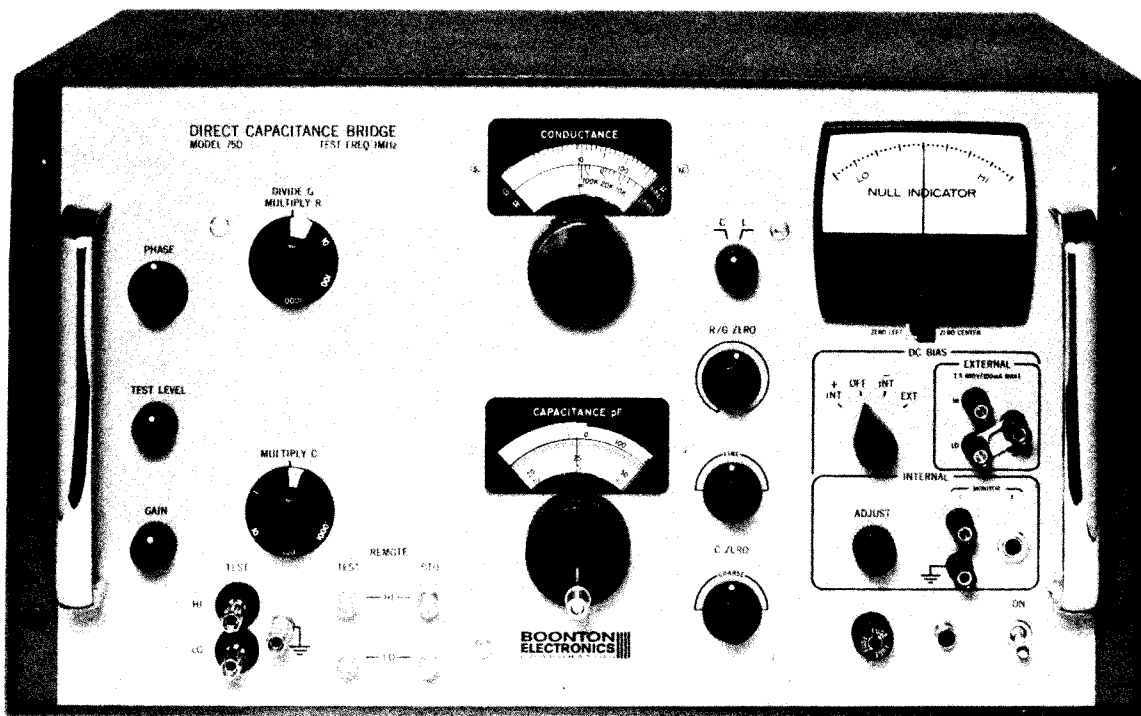

Figure 1. Direct Capacitance Bridge, Model 75D, (1 MHz)
1.1 GENERAL. The Direct Capacitance Bridge, Model 75D, (1 MHz) is a self-contained test instrument (Figure 1) designed for use as a precision laboratory bridge to measure values of capacitors, inductors, and semiconductor devices, or to perform single-limit sorting tests of capacitive or inductive specimens.